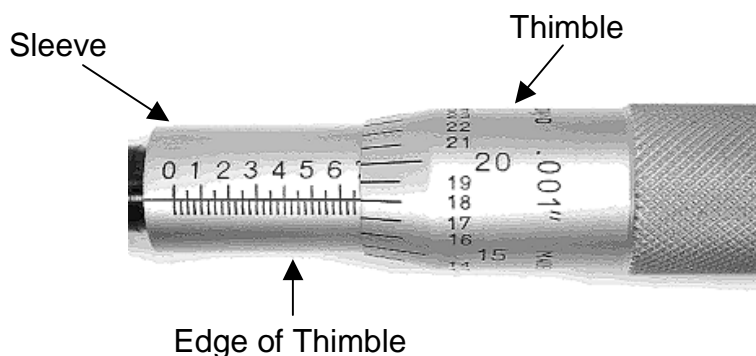

Figure 33. Micrometer scale
1. In most cases, this occurs when one or both of the cables to the pipette puller bars are adjusted too tightly. One way to see if this is the case is to look at the stop in the slot of each puller bar (figure 33). If the cable is adjusted so that the puller bar can't come against the stop in the slot then the initial pull tension will depend on how hard the carriers are squeezed together when the glass clamps are tightened. **DO NOT TRY TO ADJUST THE CABLE TENSION BEFORE CONSULTING WITH SUTTER TECHNICAL SUPPORT PERSONNEL!**